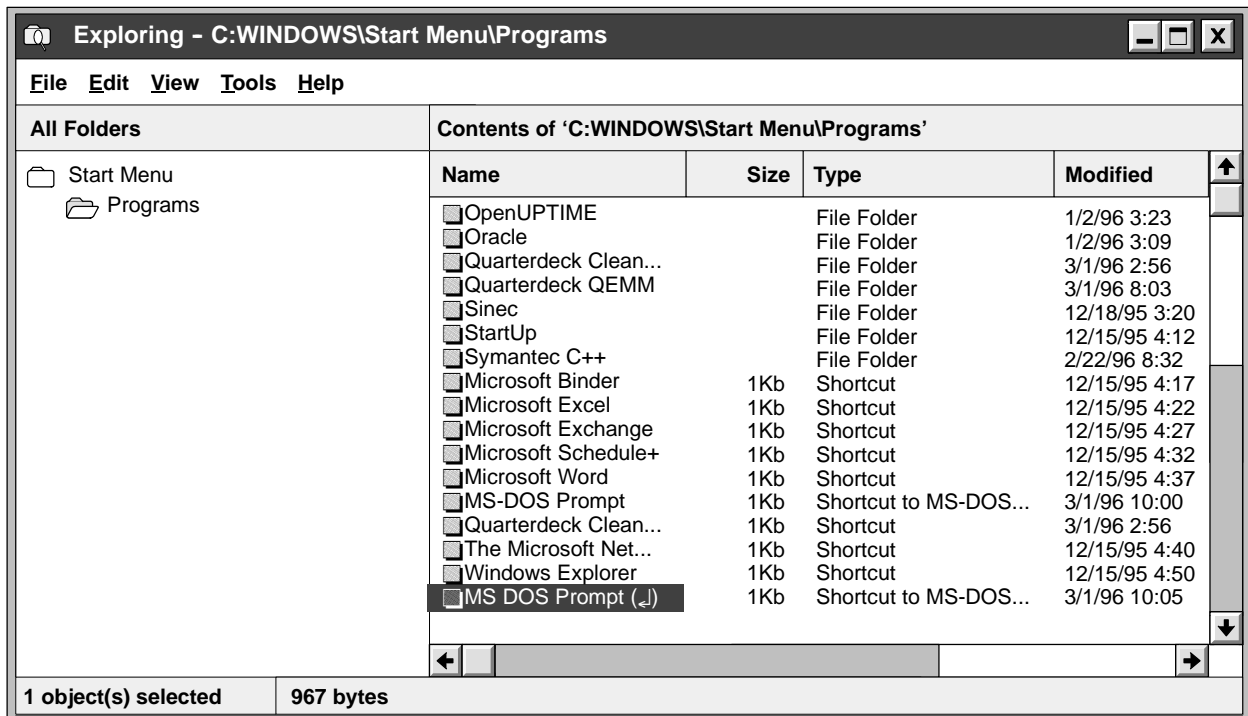

Figure D-2 Start Menu Program Explorer Window
2. Select the **Start Menu Programs** tab and click on the **Advanced** button in the Customize Start Menu. This opens an explorer window for the Start Menu (Figure D-2).